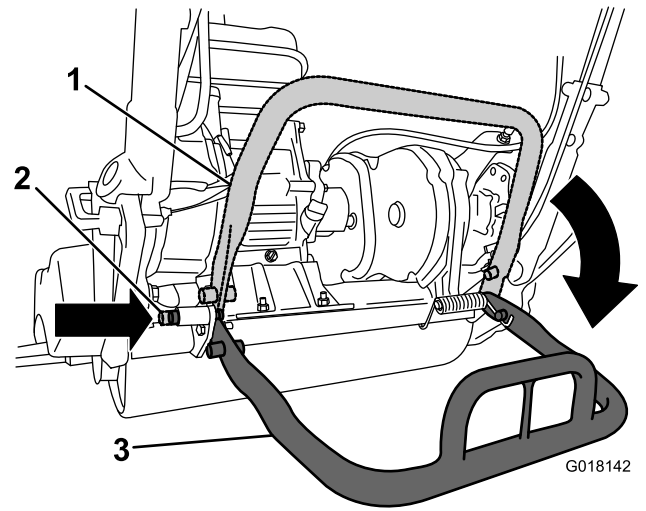

Figure 23
- To prevent the unit from tipping backward when removing the reel, lower the kickstand and push in the locking pin to lock it in the SERVICE position (Figure 23).